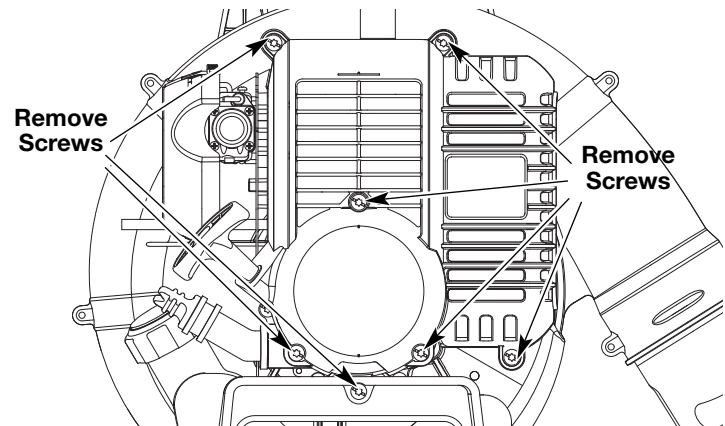

Fig. 31
- Remove the seven (7) screws on the back of the engine cover with a Flat-head or T-25 Torx screwdriver (Fig. 31).
- Remove the engine cover (Fig. 31).
1. Stop the engine and allow it to cool. Remove the eight (8) screws on the back of the engine cover with a Flat-head or T-25 Torx screwdriver (Fig. 31).